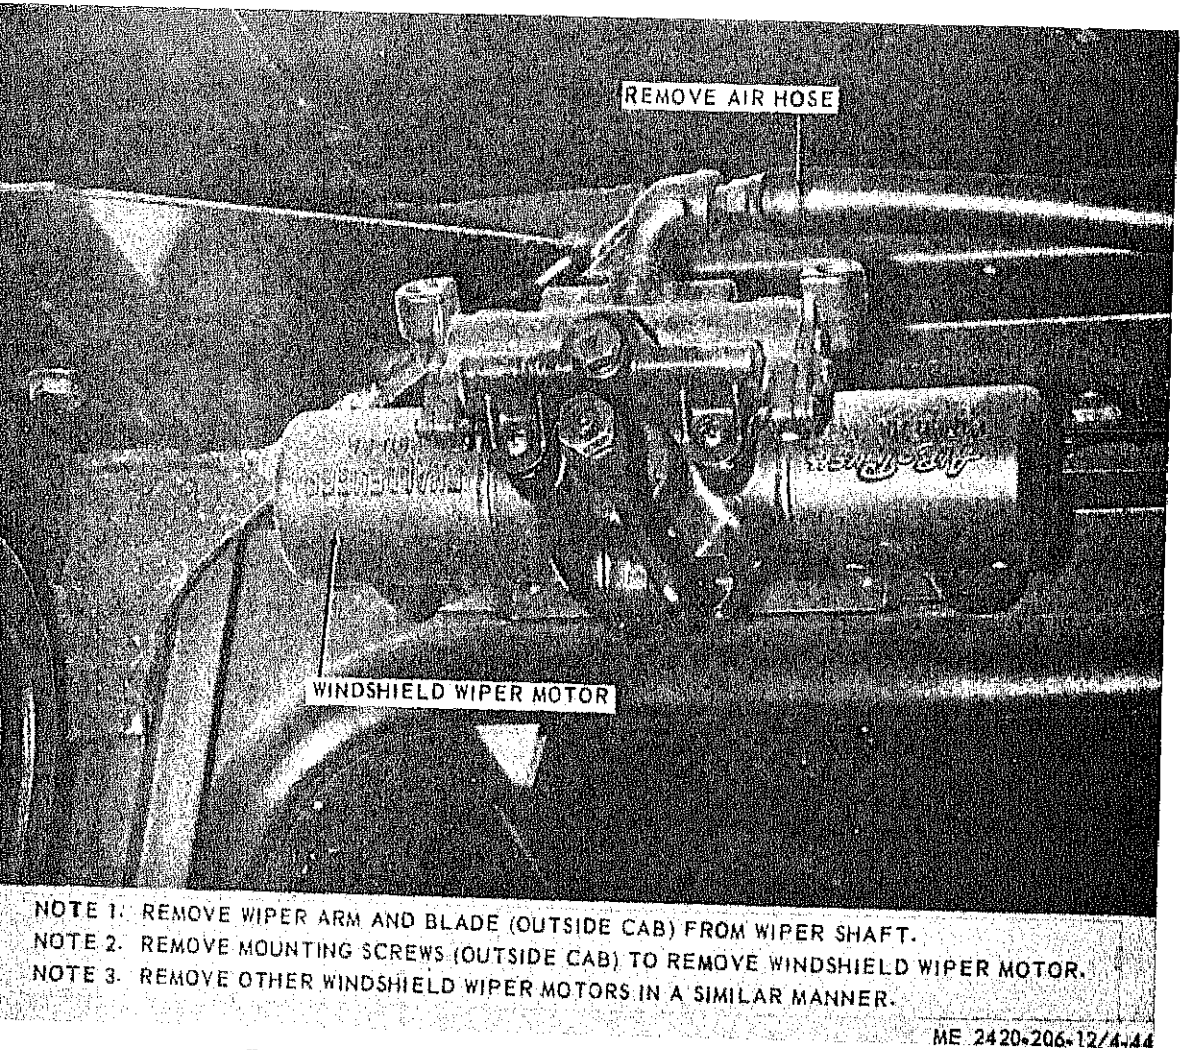

Figure 4-44. Windshteld wiper motor, removal and installation.
Removal. Remove windshield wiper motor as rated in figure 4-44.
(2) Inspect for cracks, breaks and other damage. Replace defective windshield wiper motors as necessary.
c. **Installatton.** Install windshield wiper motors as illustrated in figure 4-44.